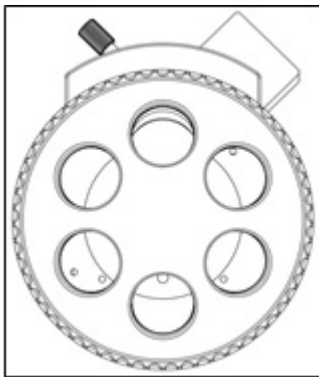

Fig. 5
4.2.3. Installing the Objectives (Fig. 5)